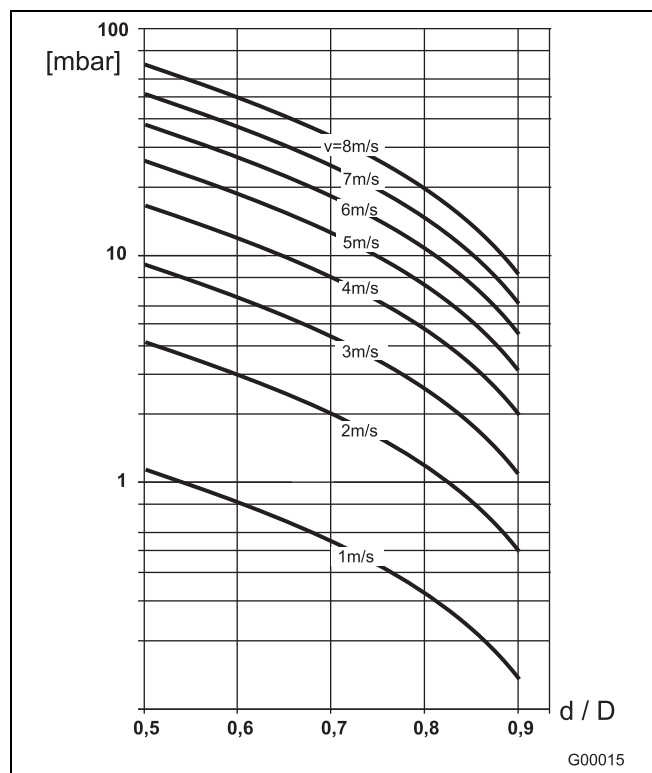

Fig. 33
- Determine the flow velocity based on the flow range nomograph (Fig. 33).
- Read the pressure drop on the Y-axis in Fig. 33.